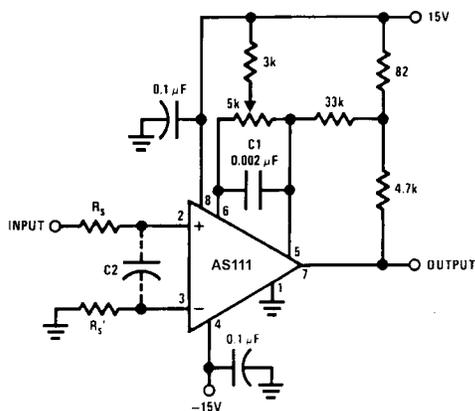

FIGURE 1. Improved Positive Feedback
However, when the input signal is a voltage ramp or a slow sine wave, or if the signal source impedance is high (1 kW to 100 kW), the comparator may burst into oscillation near the crossing-point. This is due to the high gain and wide bandwidth of comparators like the AS111. To avoid oscillation or instability in such a usage, several precautions are recommended, as shown in Figure 1 below.
should be shorted together. If they are connected to a trim-pot, a 0.01  $\mu\text{F}$  capacitor C1 between pins 5 and 6 will minimize the susceptibility to AC coupling. A smaller capacitor is used if pin 5 is used for positive feedback as in Figure 1.
7. When both inputs of the AS111 are connected to active signals, or if a high-impedance signal is driving the positive input of the AS111 so that positive feedback would be disruptive, the circuit of Figure 1 is ideal. The positive feedback is to pin 5 (one of the offset adjustment pins). It is sufficient to cause 1 to 2 mV hysteresis and sharp transitions with input triangle waves from a few Hz to hundreds of kHz. The positive-feedback signal across the  $82\Omega$  resistor swings  $240\text{ mV}$  below the positive supply. This signal is centered around the nominal voltage at pin 5, so this feedback does not add to the  $V_{OS}$  of the comparator. As much as  $8\text{ mV}$  of  $V_{OS}$  can be trimmed out, using the  $5\text{ kW}$  pot and  $3\text{ kW}$  resistor as shown.